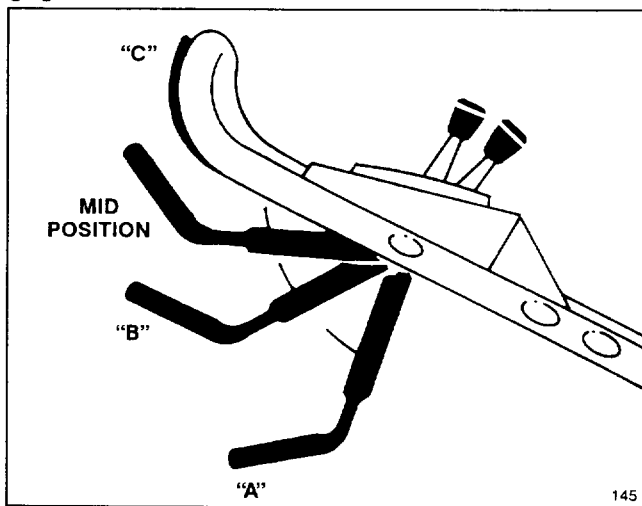

Figure 8
**6. BLADE AND TRACTION OPERATION** (Fig. 8)—Move control bar down to "A" and raise to "B" to engage blade. Squeeze control bar against handle "C" to drive. To disengage traction drive but keep blade engaged, gradually release control bar to mid position. To self-propel with blade disengaged, simply squeeze control bar against handle, eliminating downward movement necessary for blade engagement.